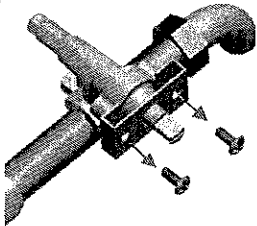
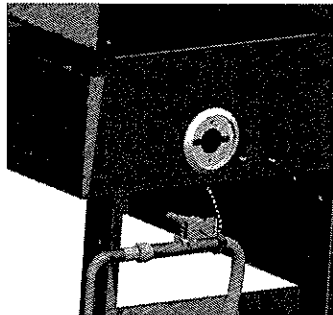

Fig. 15C
Fig. 15D
The next step is to attach the sear burner valve to the sear burner housing. Remove the (2) M4x8 screws from the sear burner valve as shown in Figure 15C. Then position the valve in place between the front panel of the sear burner housing and the inner wall as shown in Figure 15D. Align the threaded holes in the valve with the holes in the sear burner housing and attach using the (2) M4x8 bolts that were removed earlier.